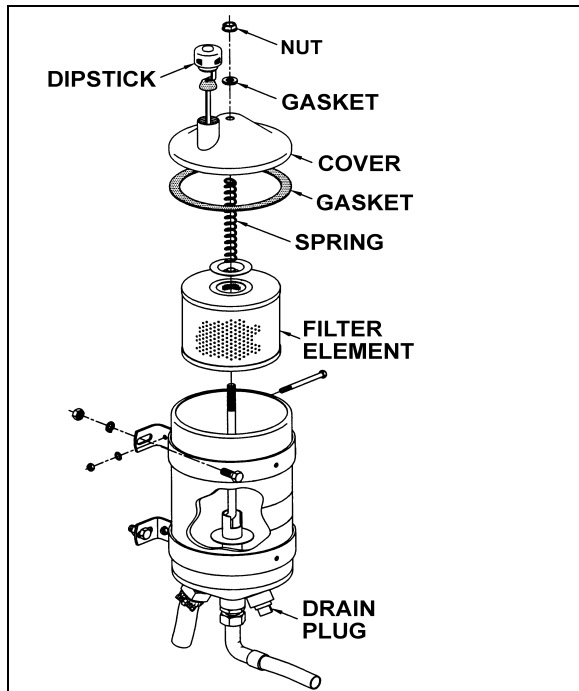

FIGURE 23: POWER STEERING FLUID RESERVOIR 14018A
3. Insert dipstick in reservoir. Remove it again to check fluid level (Fig. 23).